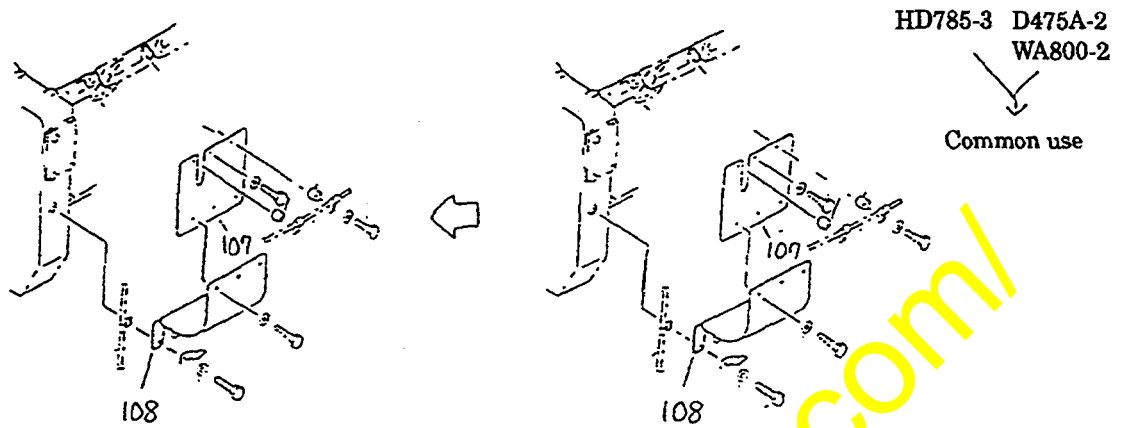

Fig. 40
⑧ Common injection pump coupling cover on D475A-2 (Fig. 40)
(This drawing is the same as Fig. 40)